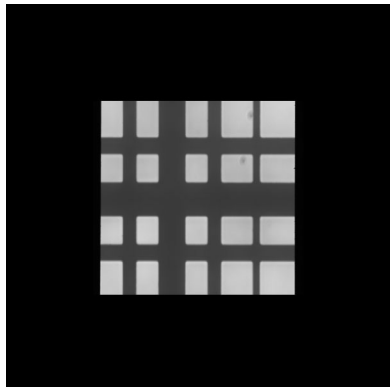

Figure 9. Image of the grid in the center of the image field. You can see that the grid is properly oriented because the lines are horizontal and vertical.
- a. If your microscope stage has rotation adjustments, rotate the grid until the lines are horizontal and vertical in the image (**Figure 9**).
- b. If your microscope stage does not have rotation adjustments, loosen the screws of the microscope C-mount adapter and rotate the microscope C-mount adapter with the QV2 attached until the lines are horizontal and vertical (**Figure 9**).